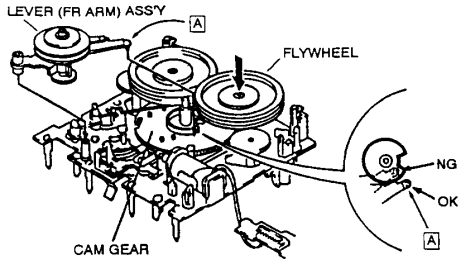

Fig. 7
- Install the new lever (FR arm) assembly while lifting up the flywheel assembly by hand. Be sure to position the A portion of the lever (FR arm) assembly beside the cam gear (fig. 7).